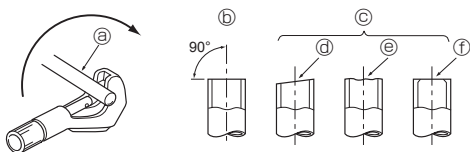

Fig. 5-3
5.2.1. Rezanie potrubia (Fig. 5-3)